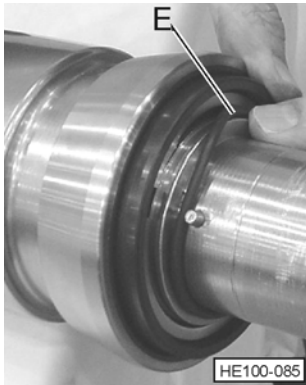

Figure 57 - Install Keeper O-ring
The seal body is held in place on the mutator shaft by two seal drive pins. Each one should be $\frac{3}{32}$ inches (± 0.015) above the stub shaft surface. It is extremely important that these pins are not rounded on the edges and this dimension is maintained. If the pins are higher than $\frac{3}{32}$ ", the seal will jam; if the pins are too low, the body will rotate. See Figure 57.
5. Install "keeper" O-ring (See Figure 57, Item E) on shaft to keep rotating parts assembled.